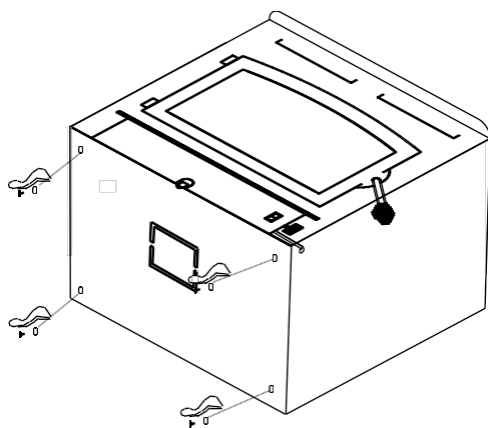

FIGURE 12
5. **(Leg Kit):** If legs are to be used, obtain four legs, attach legs to holes in bottom of unit with bolts and washers supplied with leg kit. (See Figure 12).